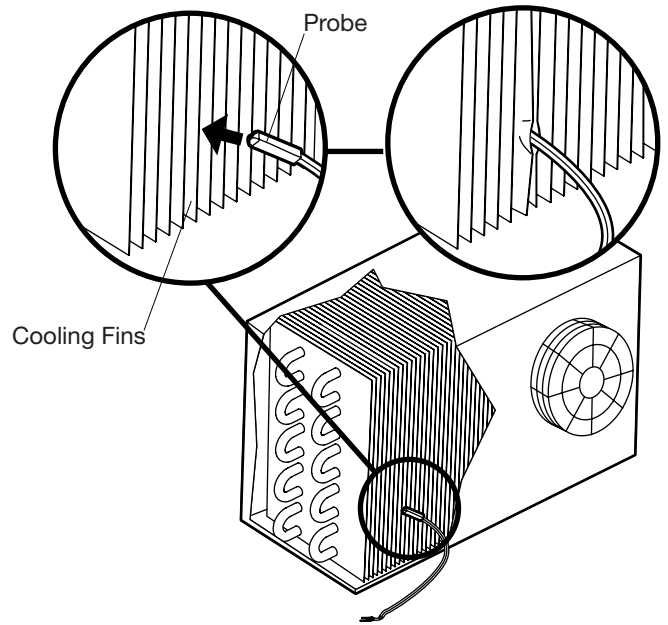

FIG. 8 Insert Thermistor Probe between Evaporator Cooling Fins
- Insert the probe between the cooling fins, as shown in FIG. 8. Ensure that the probe makes good contact with one of the evaporator tubes. Then, using needle nose pliers, carefully bend the cooling fins together to hold the probe firmly in place.